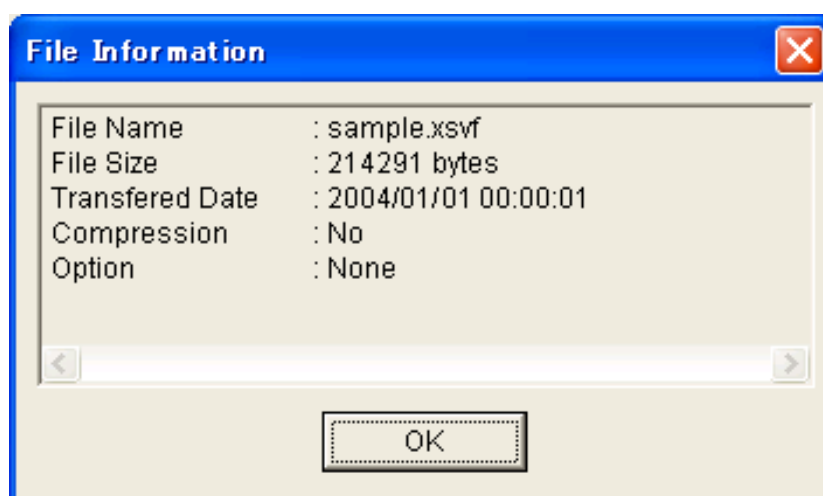

Figure 5-23 File Information Window
3. If the acquisition is successful, a File Information window as shown in **Figure 5-23** appears.